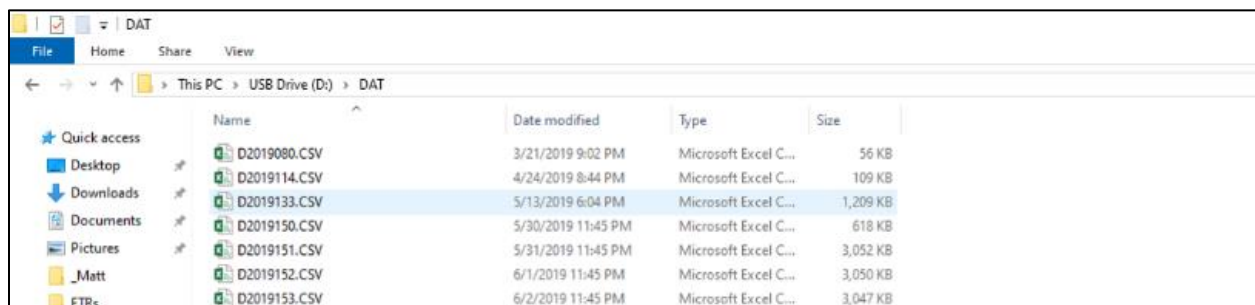

Figure 4. The DAT folder is the folder that contains the SUNA .CSV Data Files
3. The DAT folder is the folder that contains the SUNA .CSV Data Files (Figure 4). The SUNA saves the data file by the year (2019) and the day of the year (1-365). Drag and drop the DAT files onto your laptop in a new folder labeled "**AssetTag_SITE_YYYY-MM-DD**" (the full 14-digit asset tag), as you would with any computer operating system. **This process requires monitoring. The file transfer process can time-out and require you to restart the process. The upload process will break if the folder naming convention is not followed.**